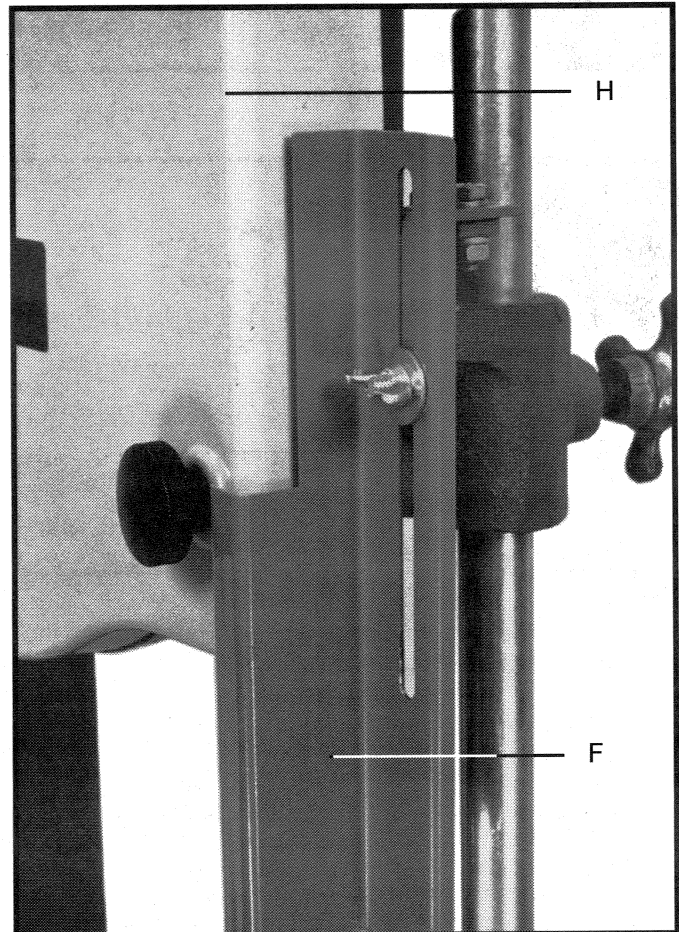

Fig. 17
4. Check to see that the blade guard assembly (F) Fig. 17 fits on the outside of the top cover (H).